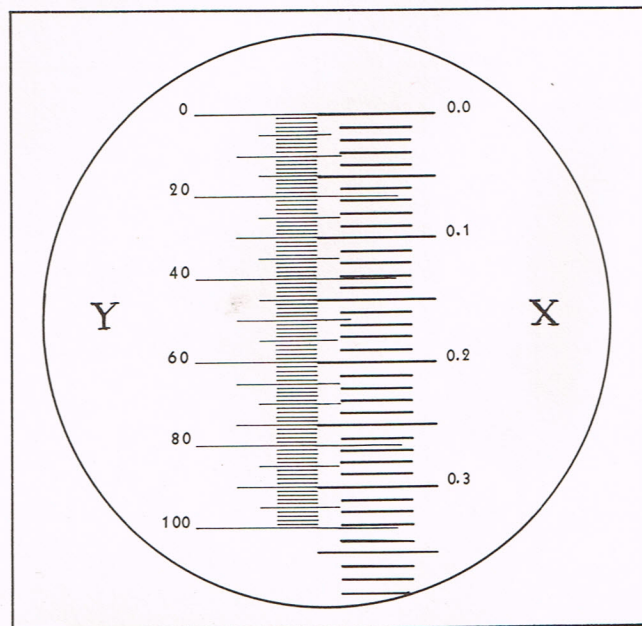

Figure 8. Calibration of Micrometer Discs
exactly with one of the divisions of the eyepiece micrometer. (See figure 8.) The true distance (X) seen on the stage micrometer, which corresponds to the number of divisions (Y) of the eyepiece micrometer disc, is then read and dividing this true distance by the number of divisions of the eyepiece micrometer, it is possible to find the distance each division subtends ( $C = X/Y$ ). The number of divisions covered by the specimen multiplied by the calibration constant (C) gives the length of the specimen.